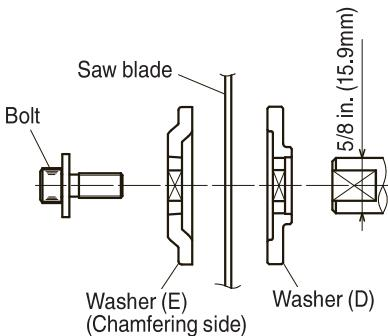

Fig. 26-c
- (6) Press in the spindle lock and tighten the bolt by turning it to the left by standard accessory's wrench (6mm Hex. bar wrench) as indicated in Fig. 26-b.